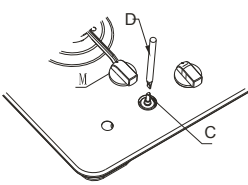

Fig 7
- The adjustment of the reduced rate position is as follows (fig. 7): Light the burner and turn the knob to reduced rate position. Remove the knob "M" which is simply inserted onto, tap stem.I Insert a small screwdriver "D" into the top shaft "C" and turn the bypass screw left or right until flame of the burner is conveniently regulated to the low position.